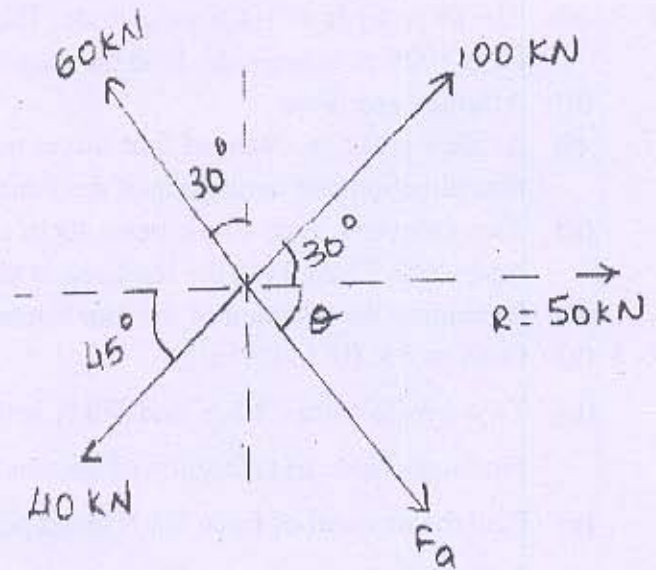

Figure 2
- (i) A 50kN is the resultant of four forces out of which three are shown in Figure 2. Find the direction and magnitude of the fourth force.